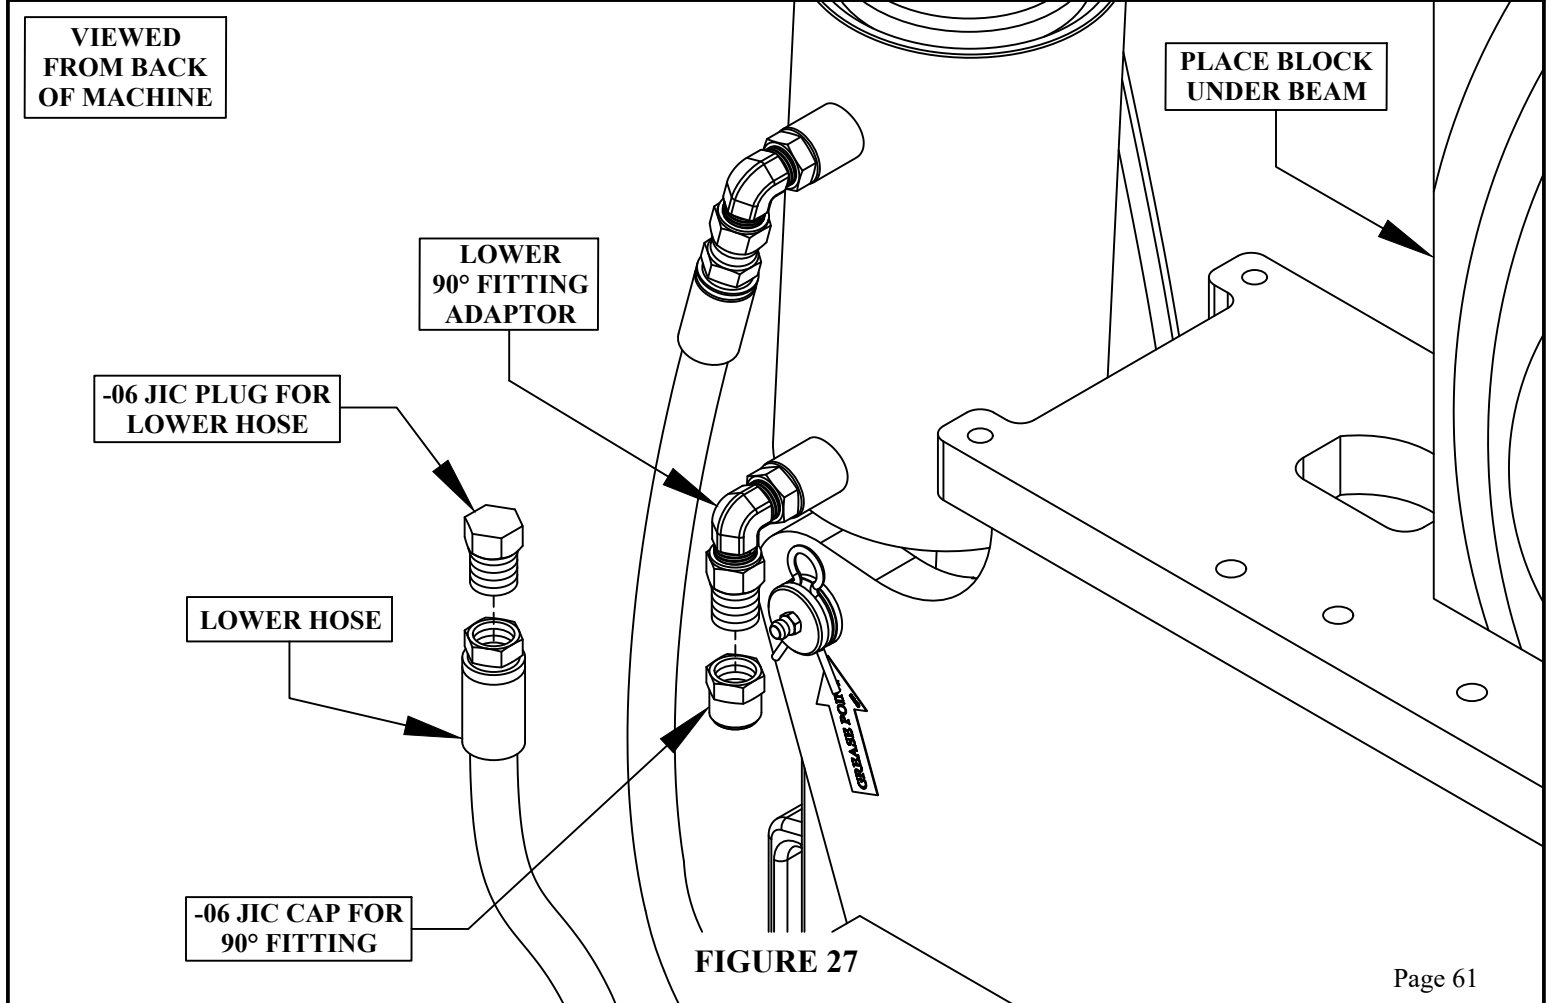

FIGURE 27
- 5. Remove the lower cylinder hose from the 90° fitting adaptor. Install the -06 JIC plug in the lower cylinder hose and place the -06 JIC cap on the 90° fitting. SEE FIGURE 27**